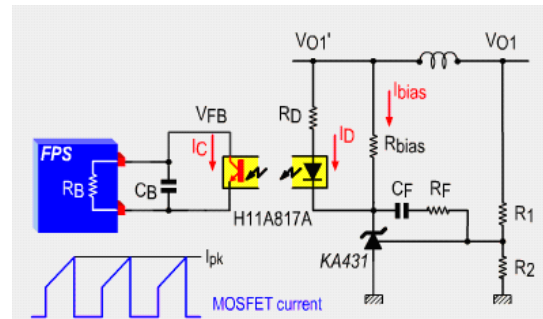

Figure 17. Typical Feedback Network of FPS
When FPS acts in Burst mode and the Burst operation is suspected to be a source of noise, this method may be helpful. If the frequency of Burst mode operation lies in the range of 2~4 kHz, adjusting feedback loop can shift the Burst operation frequency. In order to reduce the Burst operation frequency, increase a feedback gain capacitor (CF), opto-coupler supply resistor (RD) and feedback capacitor (CB) and decrease a feedback gain resistor (RF) as shown in Figure 17. Typical Feedback Network of FPS.